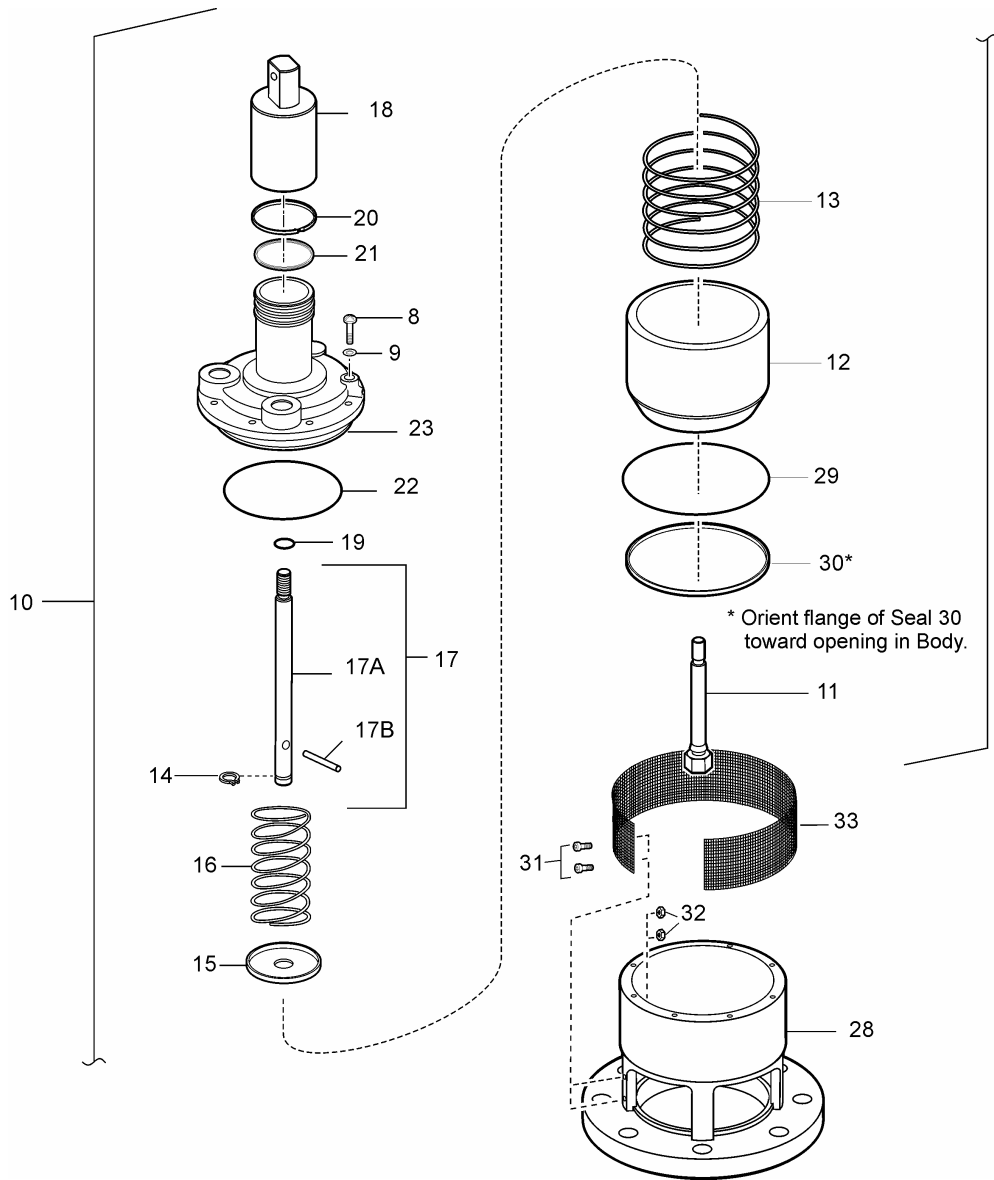

Figure 2A
| <p>6.1 Reassembly is accomplished in essentially the reverse order of disassembly, noting the following:</p> <p>6.1.2 Light lubrication of all O-rings and seals, using petroleum jelly is recommended to facilitate installation.</p> <p>6.1.3 When reassembling the Pilot Valve Assy (2) use the following procedure to assure proper diaphragm retention:</p> <p>6.1.3.1 Once the Poppet (40), Spring (42), Washer (41) and Ring (39) are in place, be sure that the Pressure Pad (38) is placed onto the Poppet (40) shaft with the smaller end placed onto the shaft first. The larger flat surface should be facing away from the shaft.</p> <p>6.1.3.2 The two Diaphragms (37) are placed such that the loops in the diaphragms are facing the Pressure Pad (38). See Figure 3B for an illustration. [In operation, the loops always face in the direction in which the pressure from the Level Sensor or solenoid valve is applied.] Smooth out the Diaphragms (37), place onto the Fitting (43) and align the six holes in all three parts. Carefully place the Cover (36) onto this assembly, aligning the holes.</p> <p>6.1.3.3 Start the six Screws (34) with the Washers (35) in place by hand until resistance is met. Note that if no resistance is met in attempting to hand tighten the screws, it is recommended that the Screws (34) be replaced. They are self-locking and some resistance should be felt.</p> <p>6.1.3.4 Observing the Cover (36) from the outside end (look at the threaded port in the middle), mentally number the holes in a clockwise direction from one to six. Refer to Figure 3C. Using a properly set torque wrench, tighten the number 1 screw to 1.6 in-lbs. (1.8 Kg-cm), followed by tightening screws number 5, 3, 6 and 4 in that order.</p> | <p>6.1.4 When installing the Seal (30) onto O-ring (29) in Body (28) be sure to smooth the surface evenly with a finger. See note on Figures 2A and 2B.</p> <p>6.1.5 On the 64055 - Use Loctite 242 (17C) on the thread of Shaft (17A) before screwing on Housing (18). Note the thread of both parts should be cleaned with the recommended Loctite cleaning solution prior to using 242. Read the instructions on 242 before using.</p> <p>6.1.6 Once the Piston/Bonnet Assy (10) has been inserted into the Body (28) the Rod (11) must be adjusted to provide a gap of 0.012 ±005 (.305 ± .127 mm) between the under side of the hex head of the rod and the mating flat surface of the Piston (12). A feeler gauge should be used for this purpose. This will assure that the proper surge control during shutoff will be effective. On the 64143, if the Set Screw (27) and Nut (26) were removed it will be necessary to adjust the face of the Set Screw (27) to .409 ± .005 inches (10.388 ± .127 mm) from the face of the Nut (26).</p> <p>6.1.7 On 64174 follow the same procedure as with the 64055 except recognize the differences in the two piston assemblies for the basic and option E.</p> <p>6.1.8 On Option C assemble in the reverse order of disassembly. Be sure to bend Cotter Pins (3A-13) to secure them in place.</p> <p>6.1.9 If the Screen (33) was removed and replaced, the replacement will be provided in a flat condition and it will be necessary to carefully shape it to fit the Body (28).</p> | <p>Then repeat the tightening sequence to 3.2 in-lbs. (2.1 Kg-cm) and then 5.3 in-lbs. (6.1 Kg-cm) respectively.</p> <p>Let the assembly stand for a minimum of 15 hours, retighten the screws as above to the 5.3 in-lbs. (6.1 Kg-cm) setting.</p> |